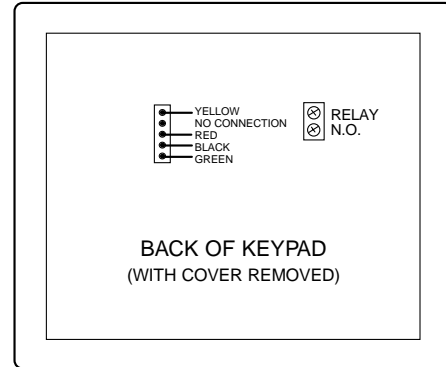

Figure 2: 6128RF Wiring Connections
4. **Plug the supplied connector** with the flying leads into the 6128RF's PC board and splice the panel wiring to it. (See *Figure 2 for wiring connections*).
5. **Connect the wires for the relay output** (if being used) to the terminals on the 6128RF's PC board (See *Figure 2 for wiring connections*).